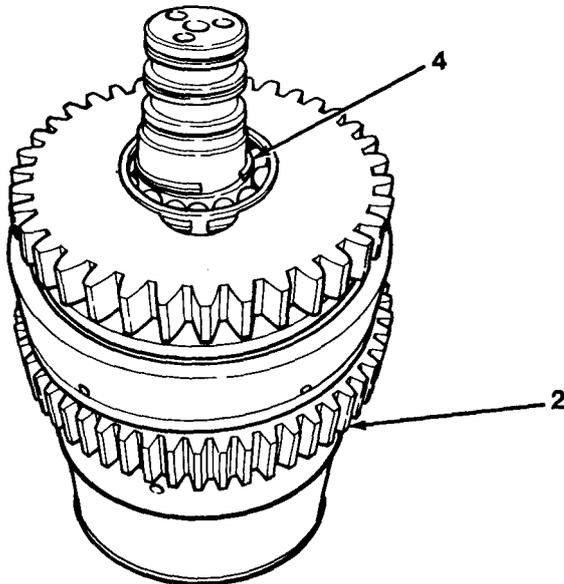

Figure 11-3
3. Remove snap ring (4) from clutch shaft assembly (2, Figure 11-3).